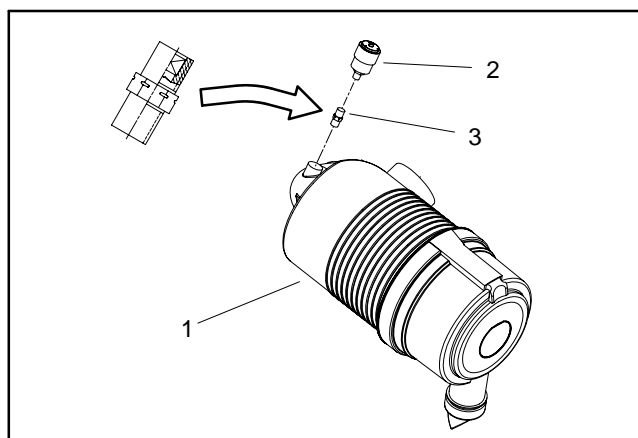

Figure 3
A. If service indicator (item 8) and adapter (item 9) were removed from air cleaner housing, apply thread sealant to adapter threads before installing adapter and indicator to housing. Install adapter so that grooves in adapter hex and adapter filter element are installed toward service indicator (Fig. 3). Torque indicator from **12 to 15 in-lb (1.4 to 1.6 N-m)**.